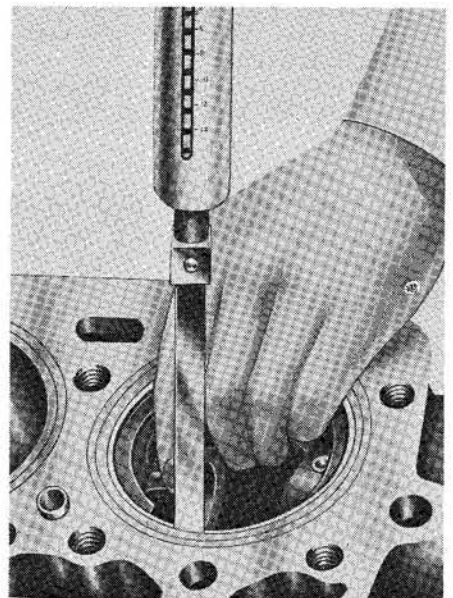

Fig. 41—Checking piston to cylinder sleeve fit with feeler gage strip and pull scale; refer to text for specifications.
**77. FITTING PISTONS.** To check piston fit, refer to Fig. 41 and proceed as follows: Position the piston in cylinder bore as shown, with top face towards crankshaft and valve recesses in top face away from camshaft side of engine, and with a ½-inch wide 0.004 thick feeler strip inserted between piston and sleeve on camshaft side of engine. Piston fit is correct when a pull of 2 to 4 pounds is required to remove the feeler strip. If pull required is less than 2 pounds with standard size piston, check fit of the 0.0025 oversize piston available for service. Cylinder sleeves should be renewed if the 0.0025 oversize piston cannot be properly fitted.